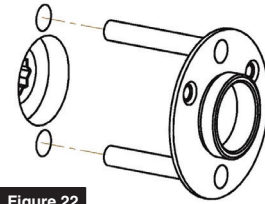

Figure 22
1. Insert outside adapter plate through lockbody and door. (Figure 22)